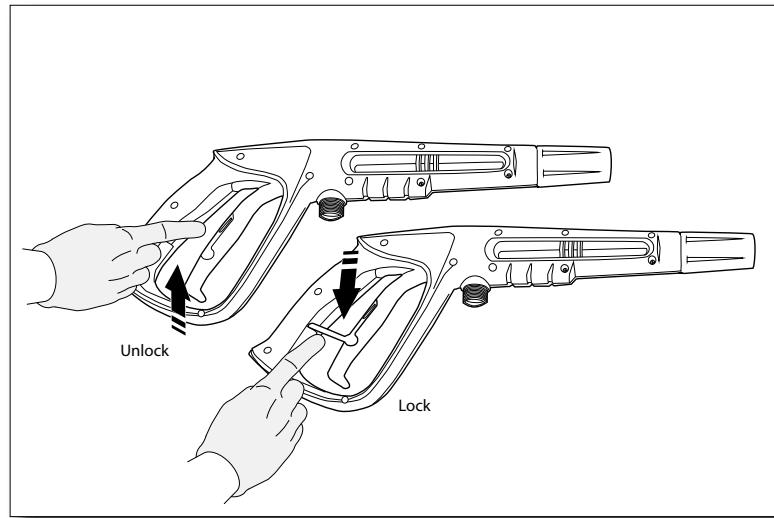

Fig. 22
- Release the safety push trigger lock up and back into trigger. (Fig. 22). While pointing the spray gun in a safe direction, squeeze the trigger on the spray gun until there is a steady stream of water, letting the water and air out of the hose. Push trigger lock back down to lock back into place.